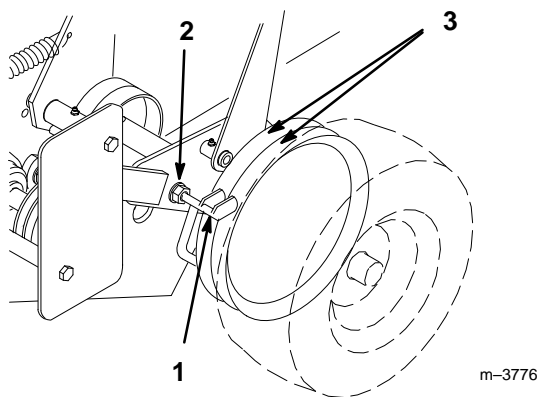

Figure 44
1. Loosen the locknut holding scraper to the engine frame (Fig. 44).
2. Rotate scraper until they align with center of pulley grooves (Fig. 44).
3. Tighten the locknut (Fig. 44).